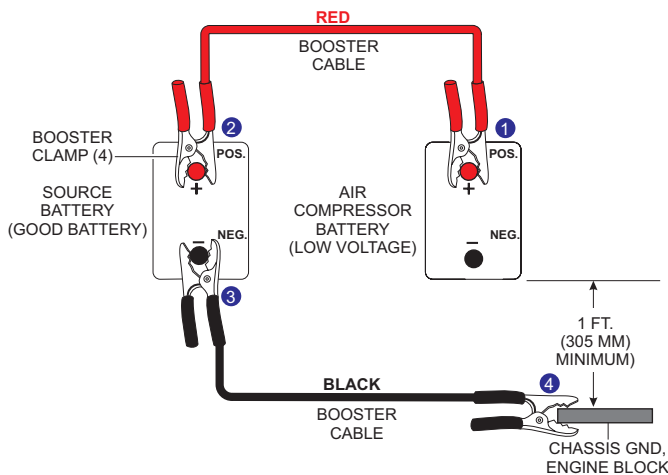

Figure 59. Connecting Booster Cables
1. Connect one end of the booster cable with the **RED** clamp (Figure 59) to the positive terminal on the air compressor's battery.